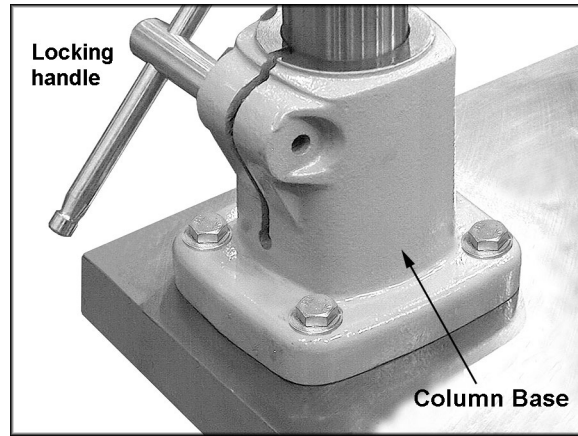

Figure 4
6. Place the column base in position (Figure 4), and align the four holes in the column base with the holes in the table. Position the column base so that its locking handle will be in a convenient position.
7. Insert four M12x50 hex cap screws with four M12 spring washers through the holes in the stand. See Figure 4.